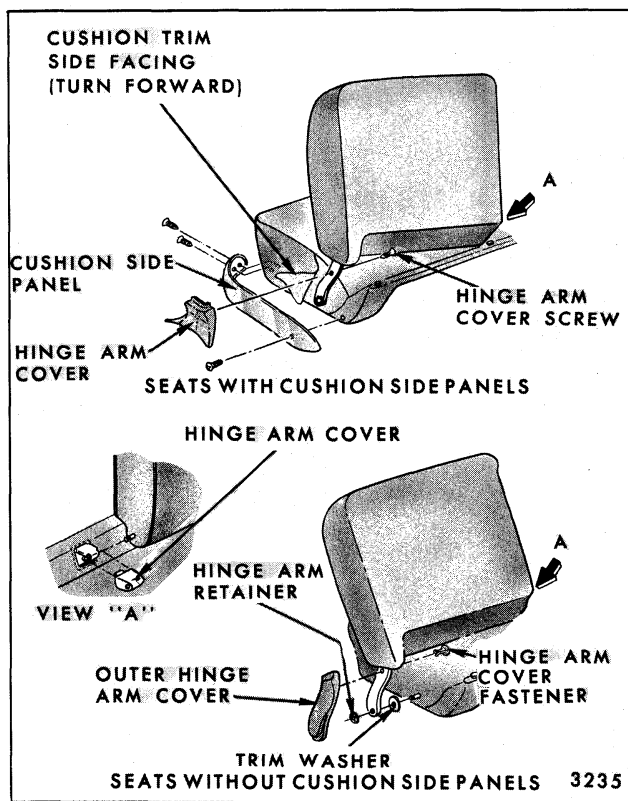

Fig. 9-39-Seat Back Attachment - Two-Door Style Full Width Seat
1. On seat with seat cushion side panel, remove side panel and detach seat cushion trim sufficiently to expose outer hinge pin and retainer (Fig. 9-39 or 9-40).
On seats with outer hinge arm cover or inner hinge pin cover, remove screw or detach fastener securing cover and remove cover (Fig. 9-39 or 9-40).
2. Using a flat-bladed tool carefully remove retainer, securing seat back outer arm to hinge pin (Fig. 9-39 or 9-40).